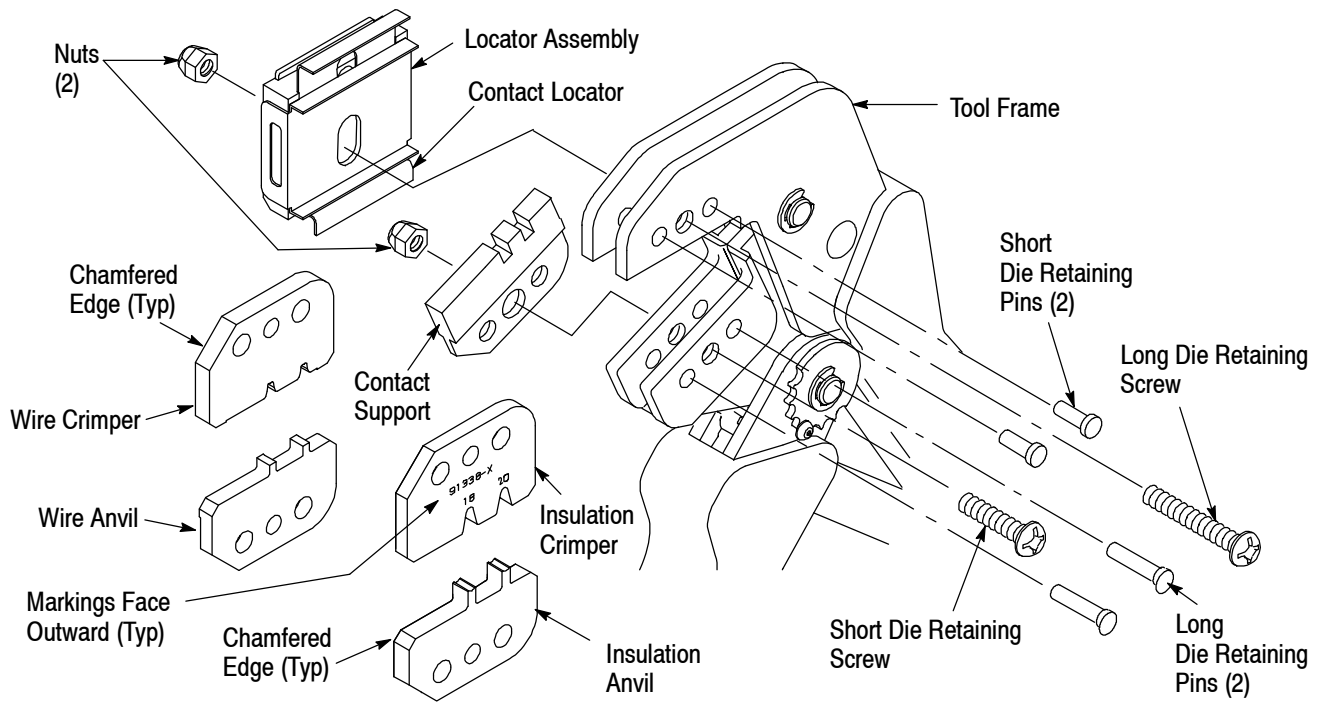

Figure 2
1. Open the tool handles, and remove the two die retaining screws from the tool jaws. See Figure 2.